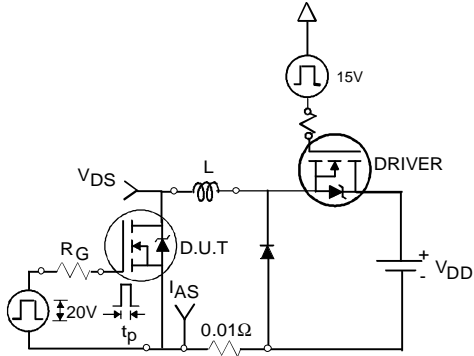

Fig 12a. Unclamped Inductive Test Circuit
- ④ Pulse width ≤ 400μs; duty cycle ≤ 2%.
- ⑤ C_{oss eff.} is a fixed capacitance that gives the same charging time as C_{oss} while V_{DS} is rising from 0 to 80% V_{DSS}.
- ⑥ Calculated continuous current based on maximum allowable junction temperature. Package limitation current is 75A.
- ⑦ Limited by T_{Jmax}, see Fig.12a, 12b, 15, 16 for typical repetitive avalanche performance.
- ⑧ Uses IRF1407 data and test conditions.
3. Equation below based on circuit and waveforms shown in Figures 12a, 12b.